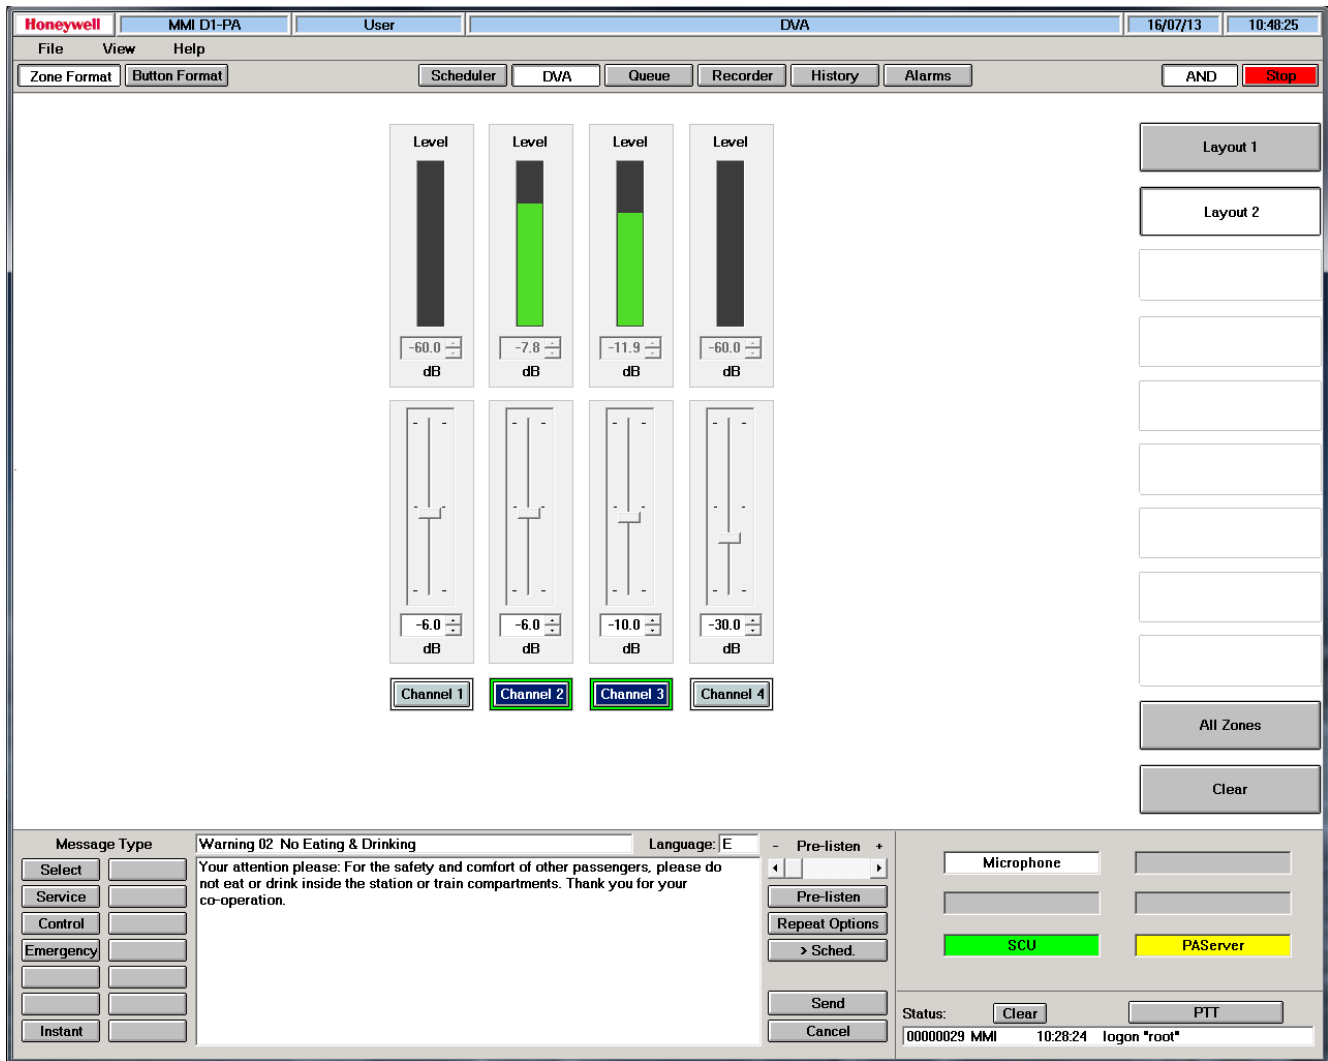

Fig. 29: Layout 2, zone view in graphical format
Zone view, graphical format, Layout 2 (see Fig. 29):
- At the time of the screenshot in Fig. 29, the "Emergency Evacuation" emergency message was being played (to zones "Channel 2" and "Channel 3"), which is why the "SCU" status indicator field is green.